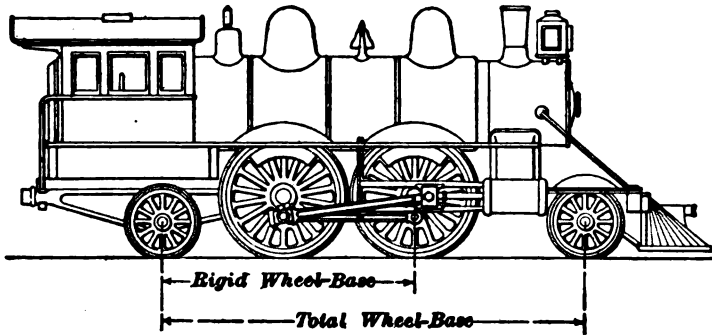

FIG. 14.
7. *Columbia*.—An engine of this type is shown in Fig. 14. It has four drivers, a two-wheeled truck at the leading